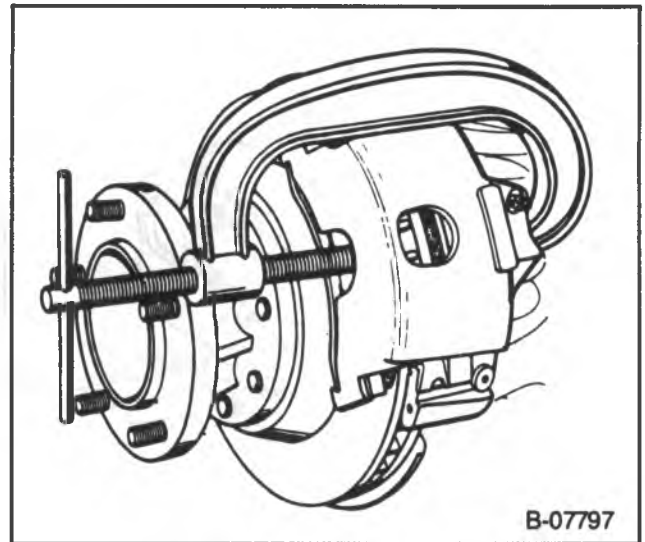
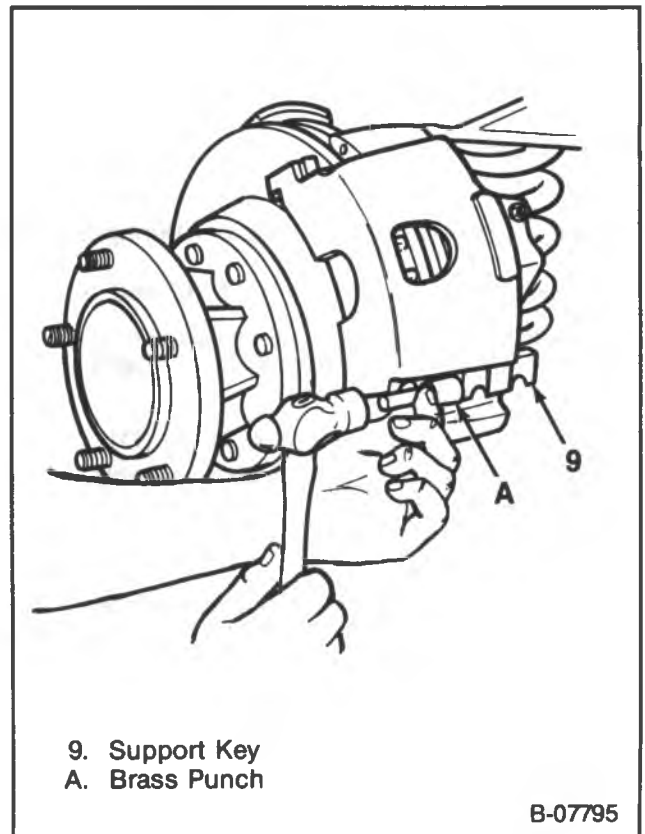

Figure 11 — Compressing the Caliper Piston (Bendix)
Figure 12 — Removing the Caliper Support Key
- Position C-clamp and tighten until the piston bottoms in its bore (figure 11).
3. Bolt (8).
4. Support key (9) and spring (10).
- Use a brass punch and a hammer to drive the support key out (figure 12).